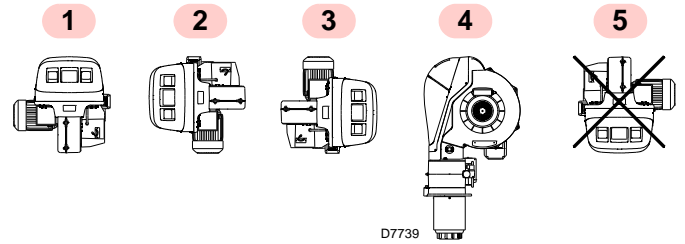

Fig. 15
- The burner is designed to operate only in positions 1, 2, 3 and 4 (Fig. 15 on page 25).